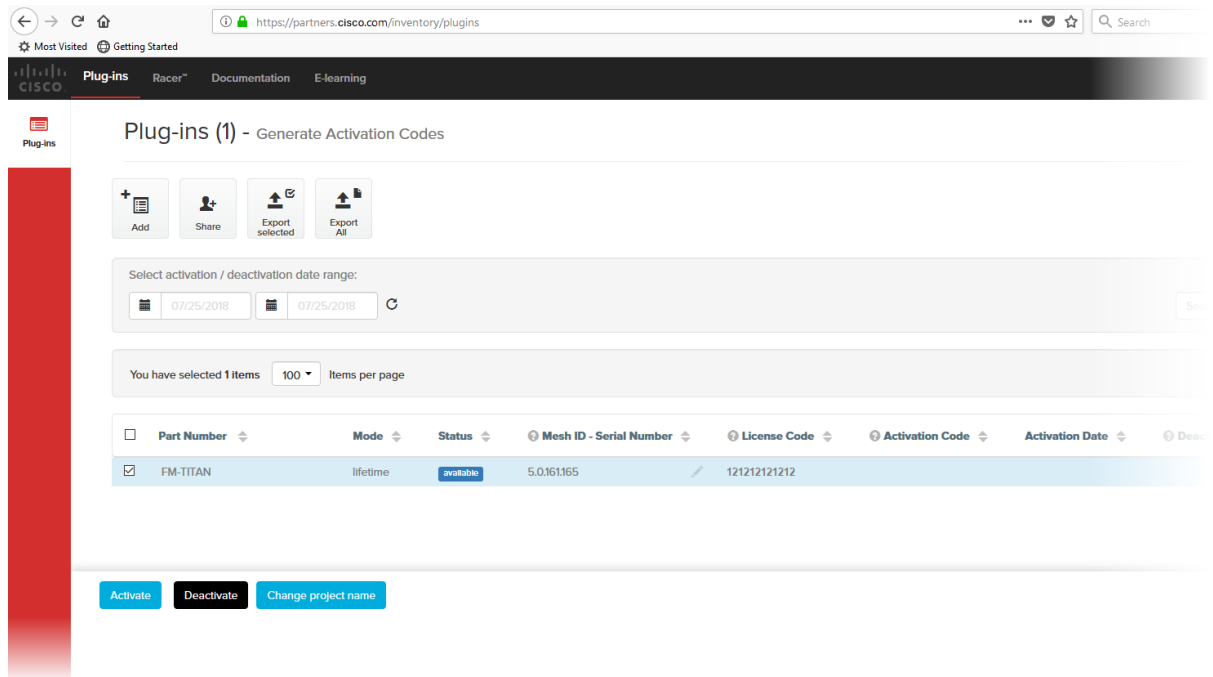

Figure 58. Partner Portal Plug-ins page (License code plug-in)
- When you purchase a generic 16-digit *License code*, the License code and corresponding plug-in will be listed on the Plug-ins page (Figure 58 \(page 107\)).